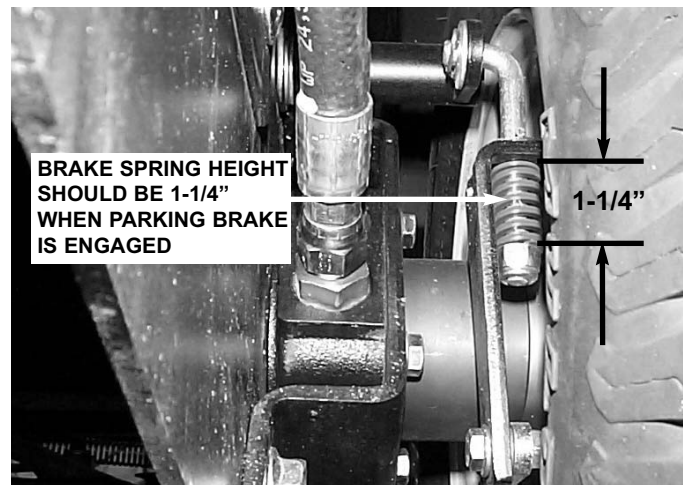

FIGURE 5.8
1. Engage parking brake and measure height of left and right brake springs. See Figure 5.8. Compressed height of each spring should be 1-1/4". If not:
- Tighten nyloc nut on each brake rod in one turn increments. See Figure 5.8.